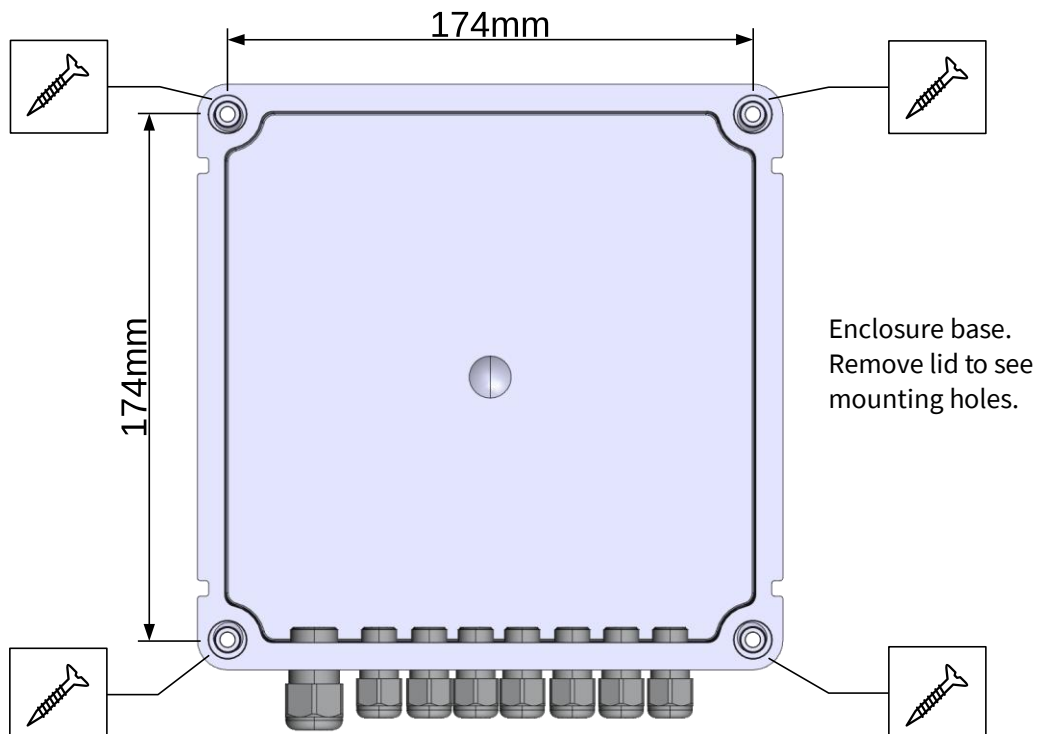

Figure 4: Enclosure mounting hole positions
- ⚠ Only use the mounting points shown in Figure 4. Do not drill holes in the enclosure or otherwise modify it as this would affect the IP65 rating and may allow water and/or moisture to enter the
2. Use the mounting points provided on the enclosure to mount in the position required. See Figure 4 for mounting points and dimensions.